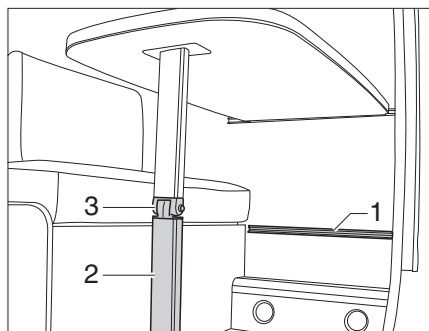

Fig. 36 Suspension table with fold-out leg
- Unlock the table leg (Fig. 36,2) at the hinge and fold it in.
- Attach suspension table to the lower attachment rail (Fig. 36,1) and rest it onto the table leg hinge (Fig. 36,3).